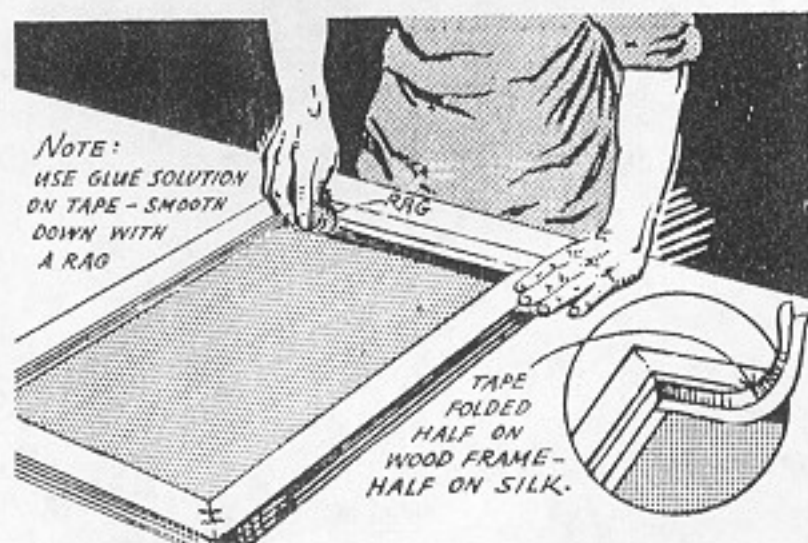

Fig. 36. Place Tape in Corners of the Frame
7. Turn the screen, basin side up. Fold the tape in half lengthwise and apply it to the inside of the frame, Fig. 36. One half of the strip should be on the frame and one-half on the stretched silk. Small pieces of gummed tape should be attached to the corners of the frame to prevent possible leakage through the joints.